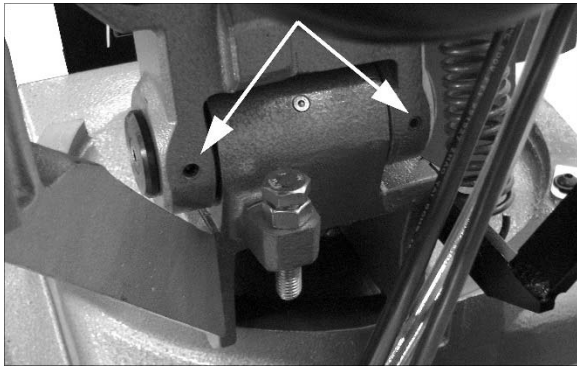

Figure 13-2
1. Loosen two set screws from rear of head pivot (Figure 13-2) with 4mm hex wrench.
4. Tighten set screws (Figure 13-2), and operate saw to verify correctness of adjustment.